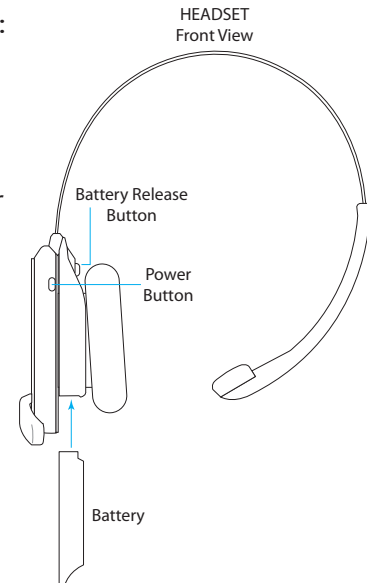

Fig. 3.2
- Install a charged battery into the headset (if not already installed) and press the power button to turn on (see Fig. 3.2). The status LED blinks green and red.